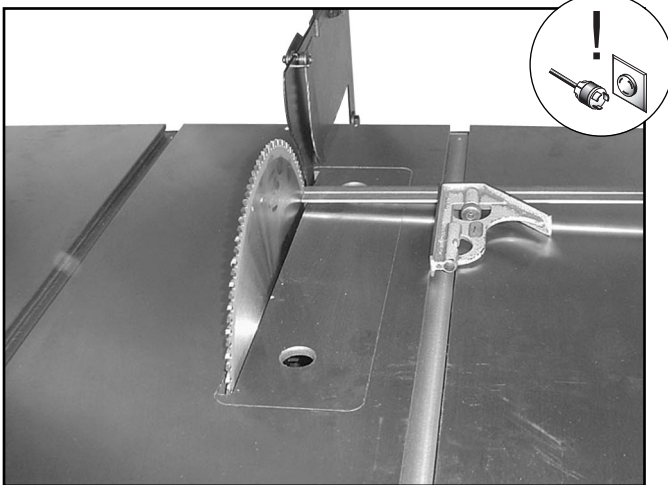

Figure 21. Measuring for parallelism.
3. Use an adjustable square to measure the distance from the mark on the blade to the edge of the miter slot as shown in **Figure 21**.